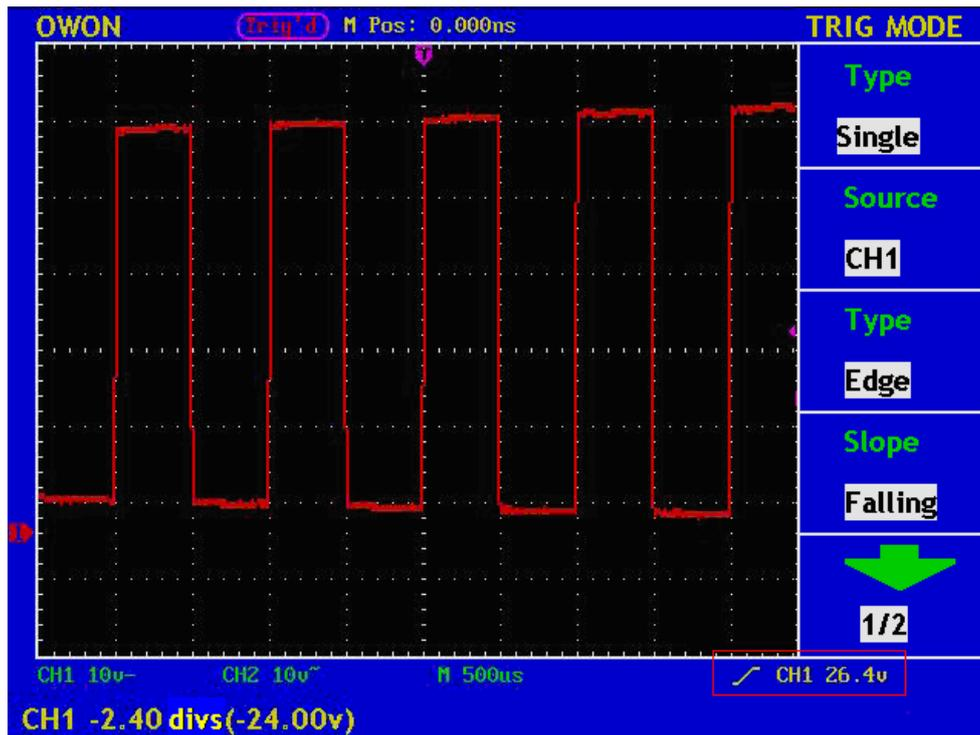

Fig.36 Wave Form Triggered on the Rising Edge
- 7、 Press the **F3** menu selection button to choose **DC** for Coupling. The display in the screen is as Fig.36.